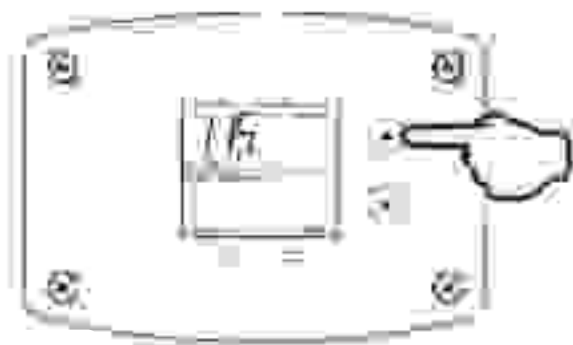

Fig. 21
1. Depress and hold 'Temperature Up' button until desired setpoint temperature appears in the display (Fig. 21).